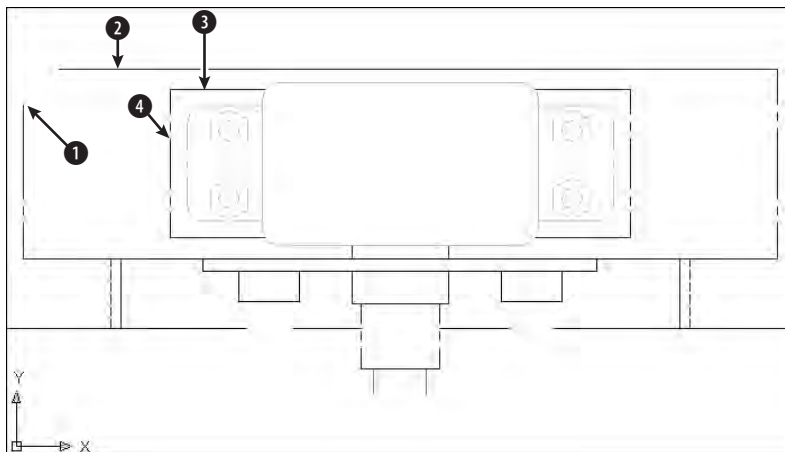
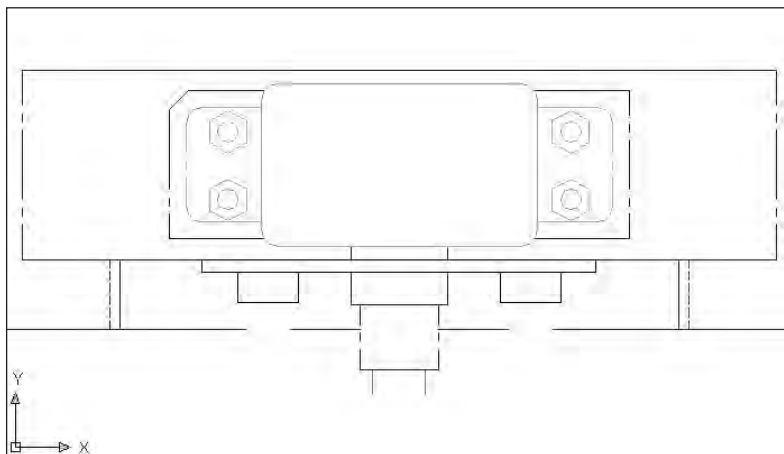

Figure 10-30: A mechanical drawing showing a small section of a “porcupine” mixer
Figure 10-31: The edited drawing after using the CHAMFER command
2. Save the file as `ab10-10.dwg` in your *AutoCAD Bible* folder. This drawing is a very small section of a “porcupine” mixer, as shown in Figure 10-30.
4. At the Select first line or [Polyline/Distance/Angle/Trim/Method/mUltiple]: prompt, pick ① in Figure 10-30. At the Select second line: prompt, pick ②. AutoCAD chamfers the two lines to make a corner. (If this doesn't work, you may have the Trim option set to No Trim. Change the setting to Trim and try again.)
6. At the Select first line or [Polyline/Distance/Angle/Trim/Method/mUltiple]: prompt, pick ❸ in Figure 10-30. At the Select second line: prompt, pick ❹. AutoCAD chamfers the two lines, as shown in Figure 10-31.